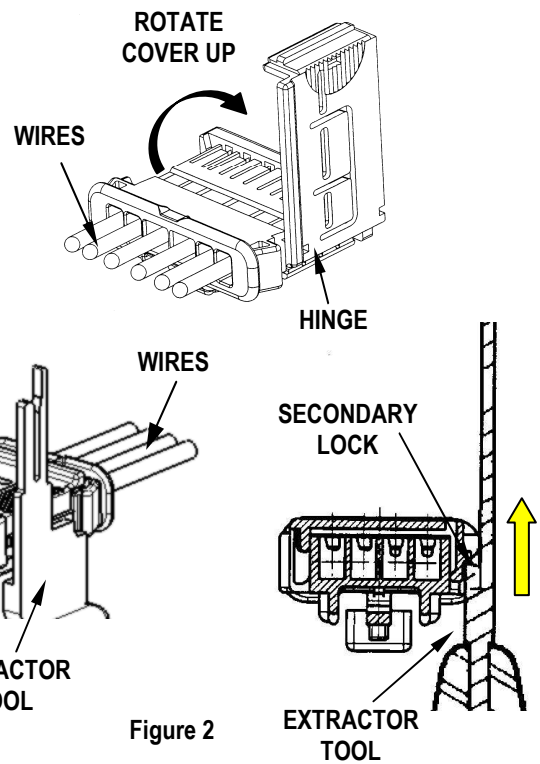

Figure 2
1. The secondary lock of the connector or socket will need to be unlocked before extracting the terminal. This is done by positioning the extractor tool on the opposite side of the hinge and pushing up on the cover. See Figure 2.